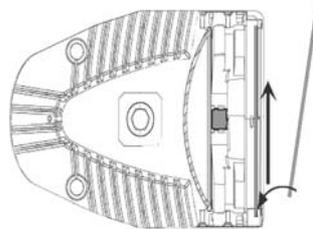

Figure 5
1. Insert the colour frame or accessory by pressing it against the spring. (**Figure 5**)